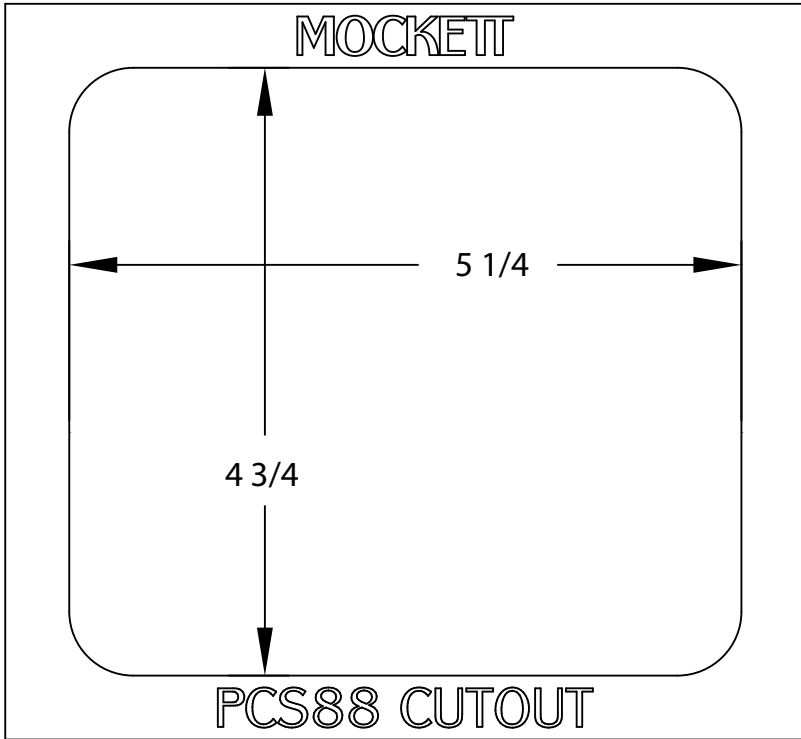

Figure 4: Cut out Dimensions (not to scale)
3. Remove template and use the trace of the **INSIDE** edge of the template on the surface to cut with a sabre or keyhole saw according to the dimensions shown in **Figure 4** (not to scale).